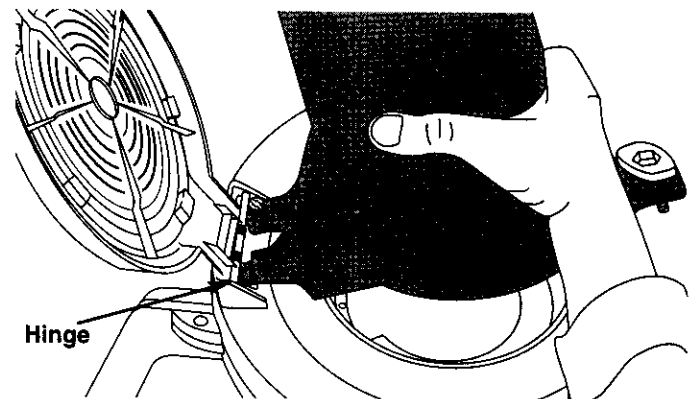

Fig. 4
3. Install the upper vacuum tube by hooking under the hinge of the vacuum door and positioning the tube to where the knob threads align with the tapped hole (Figs 4 & 5).